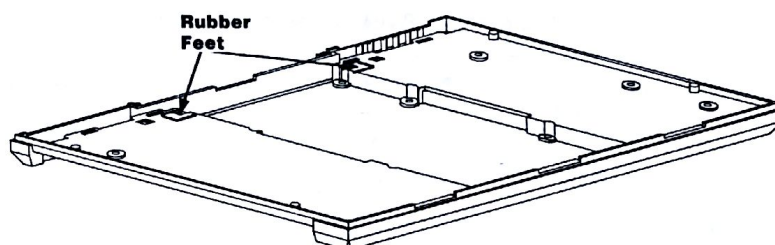

Figure 11-1. Installing Feet Over Springs
2. **HP 45711A/B, serial numbers before 2533A-----.** Install a rubber foot (part number 00090-80022) over each of the two ESD springs inside the bottom case. Be sure the hole in each spring lines up with its hole in the bottom case, and that the foot lines up with the edge of the recessed area of the case. (See figure 11-1.) This prevents shorting the motherboard PCA to the spring while drawers are installed. (Service Note 45711-05.)